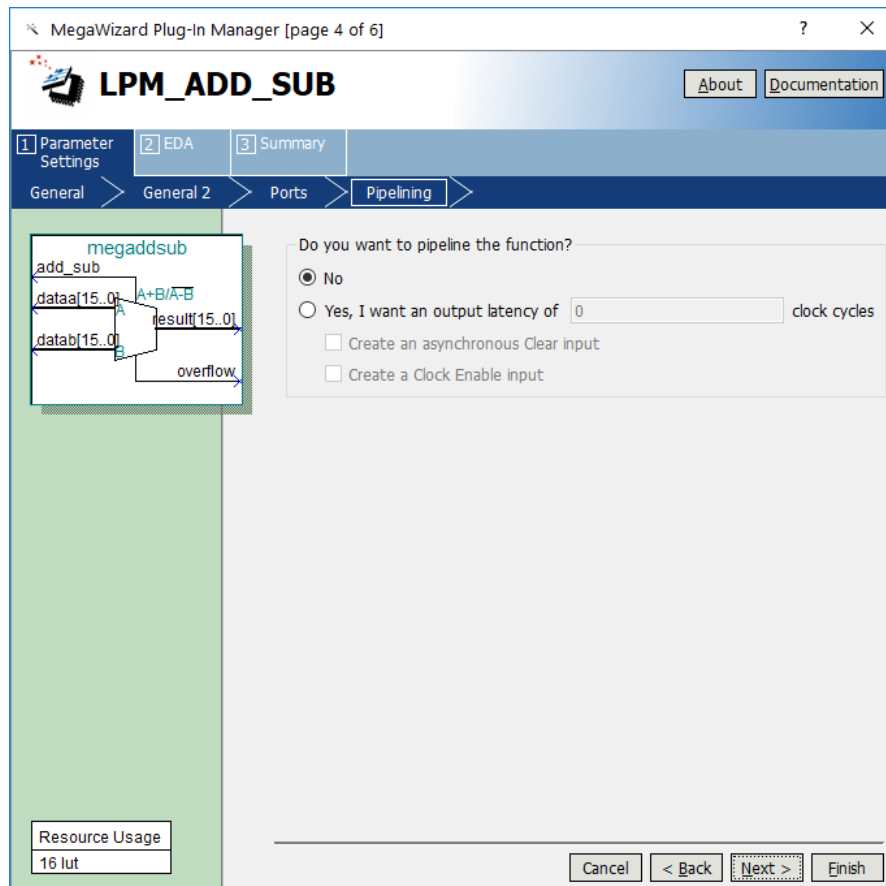

Figure 9. Refuse the pipelining option.
7. In the box in Figure 9 say **NO** to the pipelining option and click **Next**.